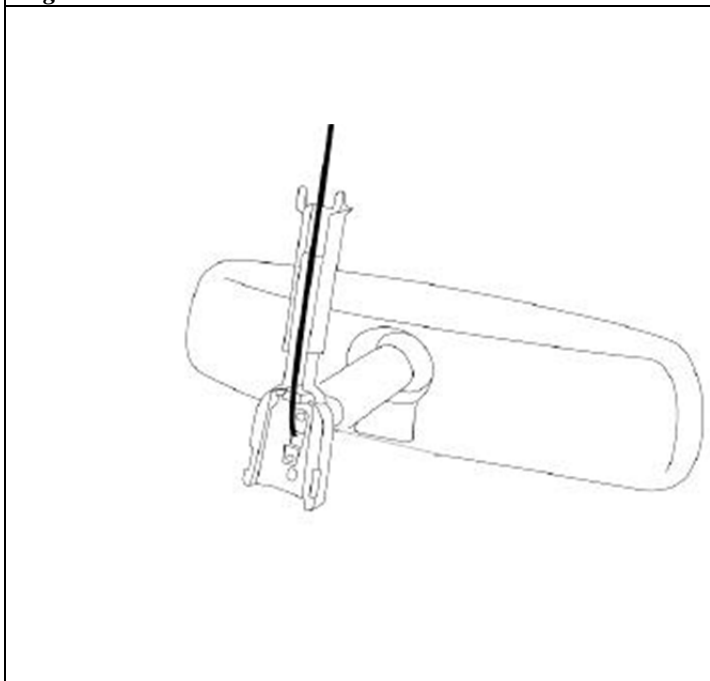

Figure 11a
11. Install the wire harness cover over the wire harness. Seat the bottom of the cover securely to base of the mirror. Extend the top of the cover fully into headliner. See figure 11a and 11b.